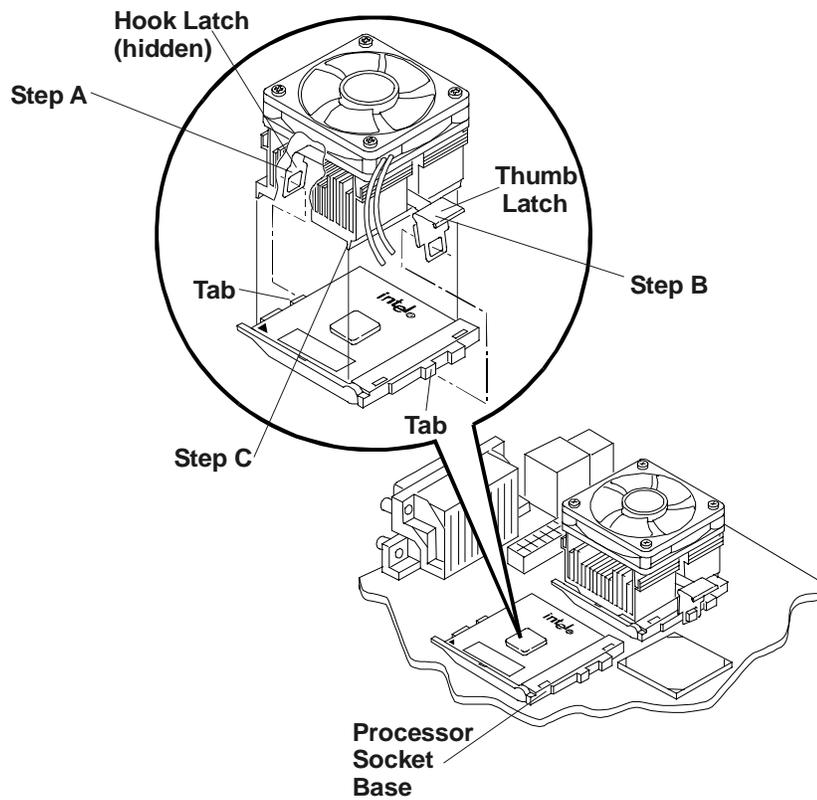

Figure 6-5. Installing the Processor on the System Board
- a. Tilt or roll it slightly to the rear of the chassis to help engage the hook latch and then connect the hook latch to the tab. See Figure 6-5.
- b. Rotate the heatsink back, placing it squarely on top of the processor and connect the thumb latch to the tab on the base of the processor socket on the side shown in Figure 6-5.
2. Unhook the thumb latch on the heatsink and lift the heat sink up slightly from the processor. See Figure 6-5.